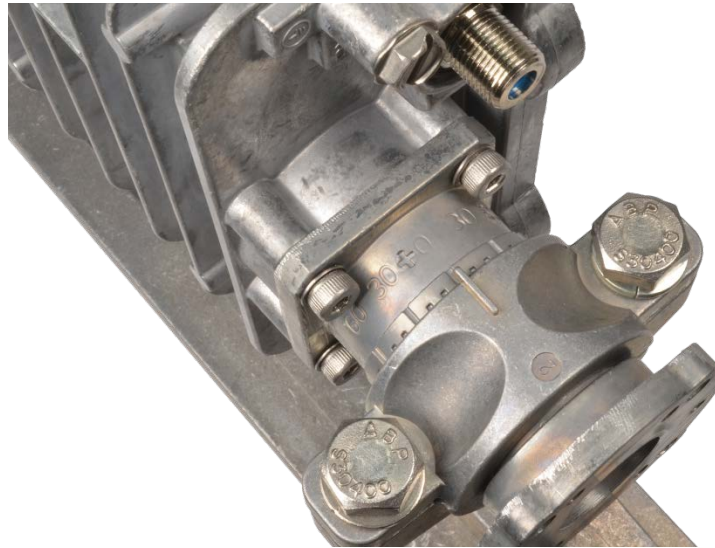

Figure 6: Universal Radio with polarization scale
**Note:** The 0° mark on the waveguide spacer should still be at the top as shown in Figure 6.